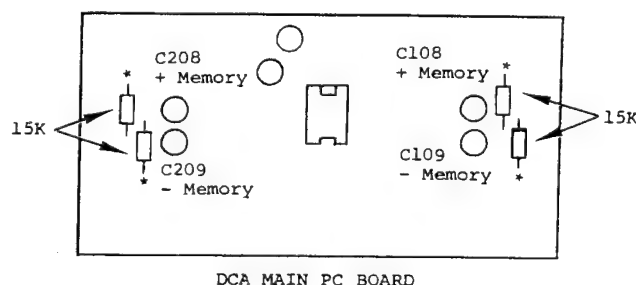

FIGURE 5-3
Positive and negative memory capacitors are used in each channel to adjust the sensitivity and activation of the protection circuit. The operating point of the protection circuitry depends on the previous signal history fed back to the memory capacitors. Their operation is verified by monitoring the voltages developed across them for various conditions of output operation. Refer to Figure 5-3. The memory capacitors are vertically mounted white components mounted in pairs near each end of the DCA main pc board.
3. Make voltage measurement across the memory capacitor by placing the voltmeter reference leads between the output of the channel under test and the leads of the 15K resistors adjacent to the memory capacitors. Test point locations are shown in Figure 5-3 as *.